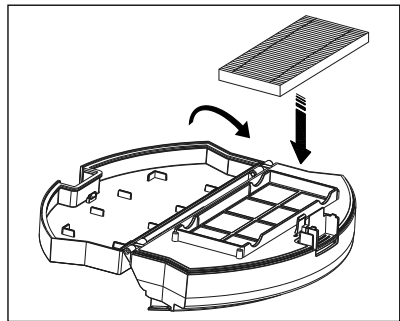

Fig. 13
- 8) Place the EPA filter **7** back in the compartment, and close the dust container **16** (see Fig. 13).